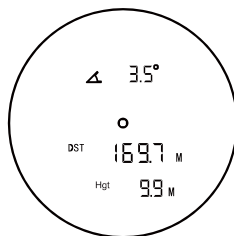

Figure 6
In this mode, you can measure the vertical distance between two points. The angle, straight line distance to the target, and the vertical distance between two points will be displayed (Fig. 6). Press the Power/measure button (1) in order to take a single measurement. Press and hold the Power/measure button (1) for continuous measurement.